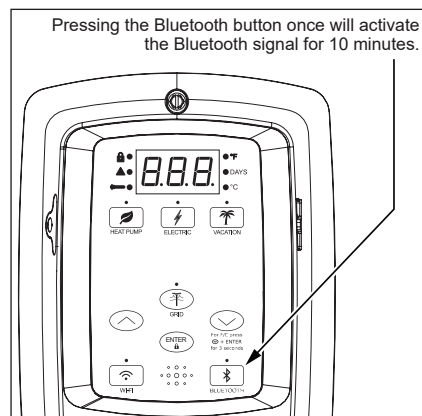

Figure 29 - Bluetooth Control
- 1 To activate the Bluetooth signal, press the Bluetooth button once. The LED will blink on and off in 1/2 second intervals. Bluetooth will activate pairing mode (Figure 29).